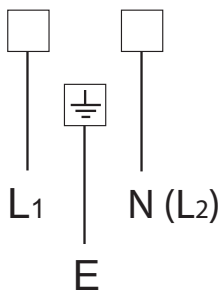

Fig. 7.1
- The new supply cable, of suitable type and section, must be connected to the terminal board following the diagram in fig. 7.1.